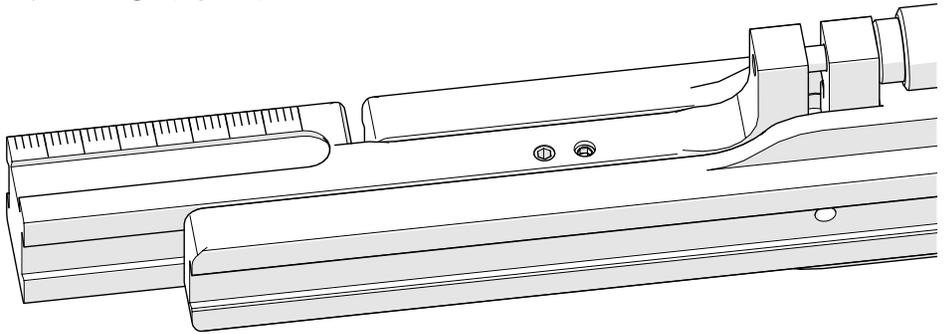

Fig. 18 - Measurement increments located at the ends of dual pivot frame bar
4. Measurement increments (*Fig. 18*) on the frame bar are used to align the wheel block with handles (*see "Wheel Block with Handle Positioning" on page 9*).